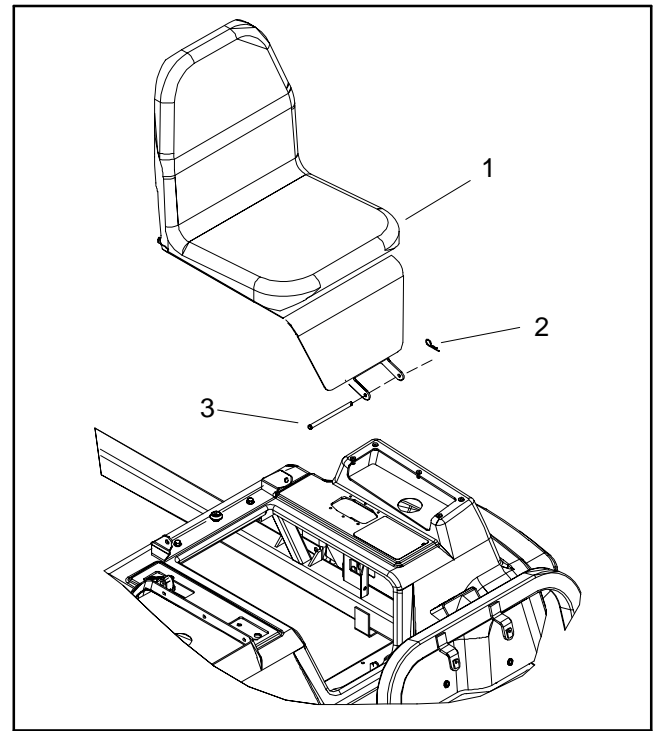

Figure 22
3. Remove seat assembly by tilting seat forward and removing hitch pin and clevis pin (Fig. 22).
6. Remove eight (8) flange head screws that fasten seat base to machine. During screw removal, locate and remove washers and spacers. The two (2) screws directly behind the front wheels are secured with flange nuts (item 7).